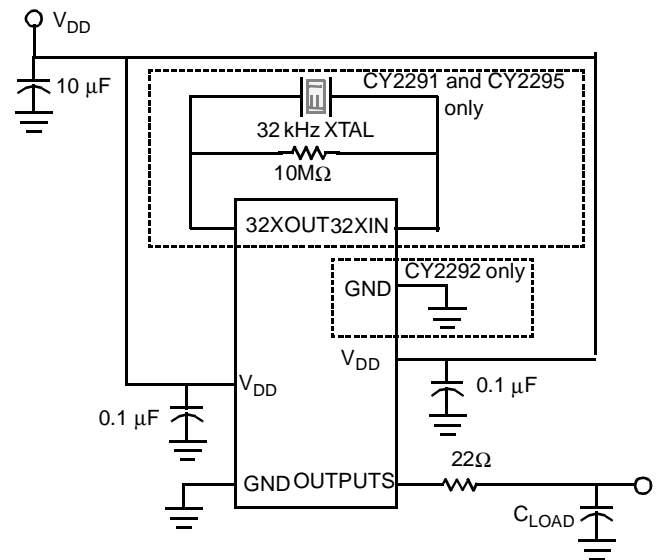

Figure 2. External Connections of the CY2291/2/5
- A 10 MΩ resistor in parallel to the 32 kHz crystal as shown in *Figure 2*
In order to ensure optimal operation of the CY2291, use the following layout and filtering techniques. *Figure 2* shows the recommended external connections.
If the output of the CY2291 drives multiple loads or long traces, use a terminating resistor in series with the output, attached as close to the output pin as is possible. *Figure 2* shows a 22Ω resistor in series with the output. The value of this resistor, summed with the output impedance of the CY2291, should equal the characteristic impedance of the trace (transmission line). Typical values of the series resistor range from 10Ω to 75Ω.